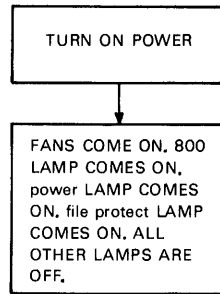

Figure 2-14 Power On
**2.5.1.1 Power On** – Follow the instructions and check for the events specified in Figure 2-14.